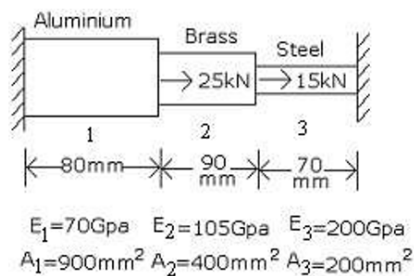

Figure 2
- (b) For the three stepped bar shown in Figure 2, determine the following. [7M]